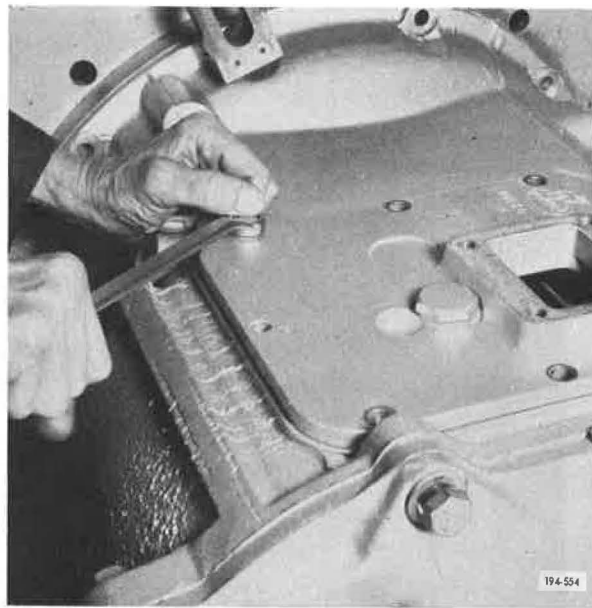

Figure 5-996. Installing Capscrew
30. Install front case top cover capscrews, and tighten to recommended torque. See Figure 5-996. Refer to Torque and Tolerance Table, Item 3.